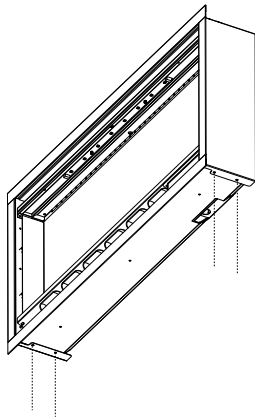

FIG. 3
4. If side covers are installed prior to recessed installation, remove the side covers by removing the screws (Figure 3 & 4).